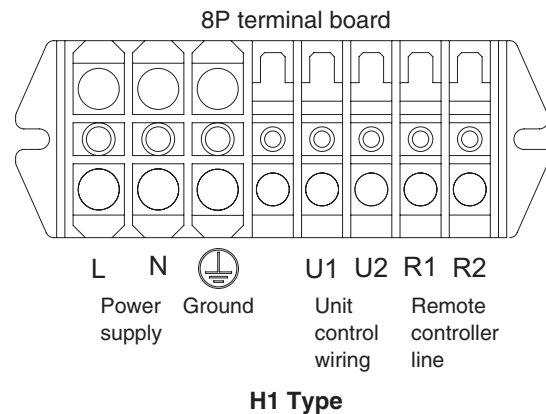

Fig. 4-2
- (1) Refer to Section 4-2. "Wire Length and Wire Diameter for Power Supply System" for the explanation of "B", "C", "D" and "E" in the above diagram.
- (2) The basic connection diagram of the indoor unit shows the terminal boards, so the terminal boards in your equipment may differ from the diagram. (Fig. 4-2)
- (3) Refrigerant Circuit (R.C.) address should be set before turning the power on.
- (4) Regarding R.C. address setting, refer to the installation instructions supplied with the remote controller unit (Optional). Auto address setting can be executed by remote controller automatically. Refer to the installation instructions supplied with the remote controller (optional).